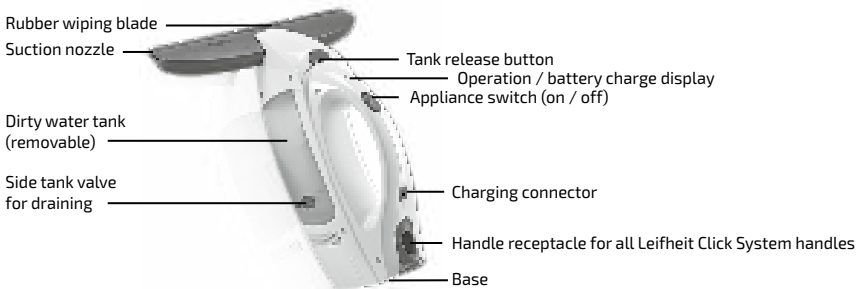

Figure 2: Window cleaner operating controls
- Place the device on its base (see figure 2) and power it off while it is not in use. **NOTE:** If the window vacuum is not used for 2 minutes while it is switched on (no contact between rubber lip and a hard surface), the device will switch into sleep mode; the LED will flash in green. The vacuum function will be activated automatically once the rubber lip comes into contact with a window pane. To interrupt or stop work for a long period of time, always use the main power switch to shut the device off.